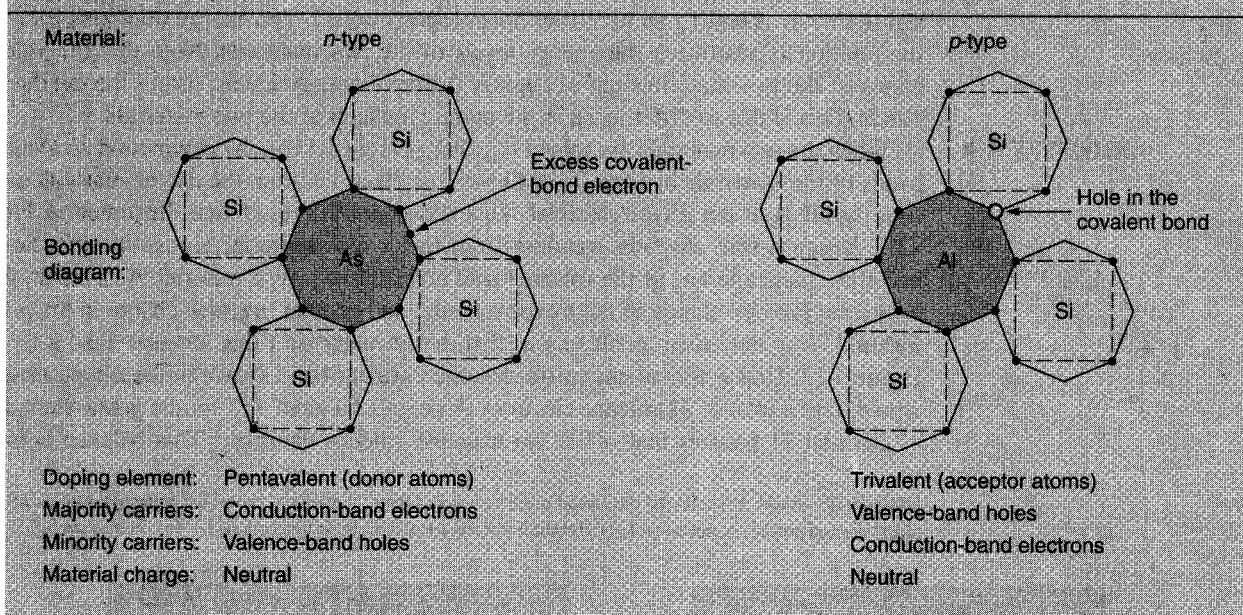

FIGURE 1.10
**OBJECTIVE 5 ►** Figure 1.10 provides a quick summary of the material presented in this section. As you will see, summary illustrations like Figure 1.10 are used extensively throughout the text. When you come across one, take time to study the illustration and the relationships it contains. This will help you to remember the points that were made in the section.
Note that the terms *donor atom* and *acceptor atom* are used in Figure 1.10 in the description of the pentavalent and trivalent doping elements. The meanings of these two terms will be made clear in the next section.